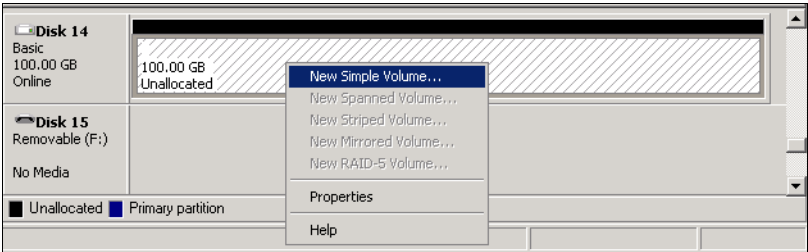

Figure 5-30 New Simple Volume
6. Right-click in the right pane and select **New Simple Volume** (Figure 5-30).